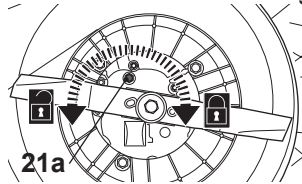

Fig. 26
3. Loosen and remove the oil drain screw (21a) to empty the oil into the oil collecting container (Fig. 26).